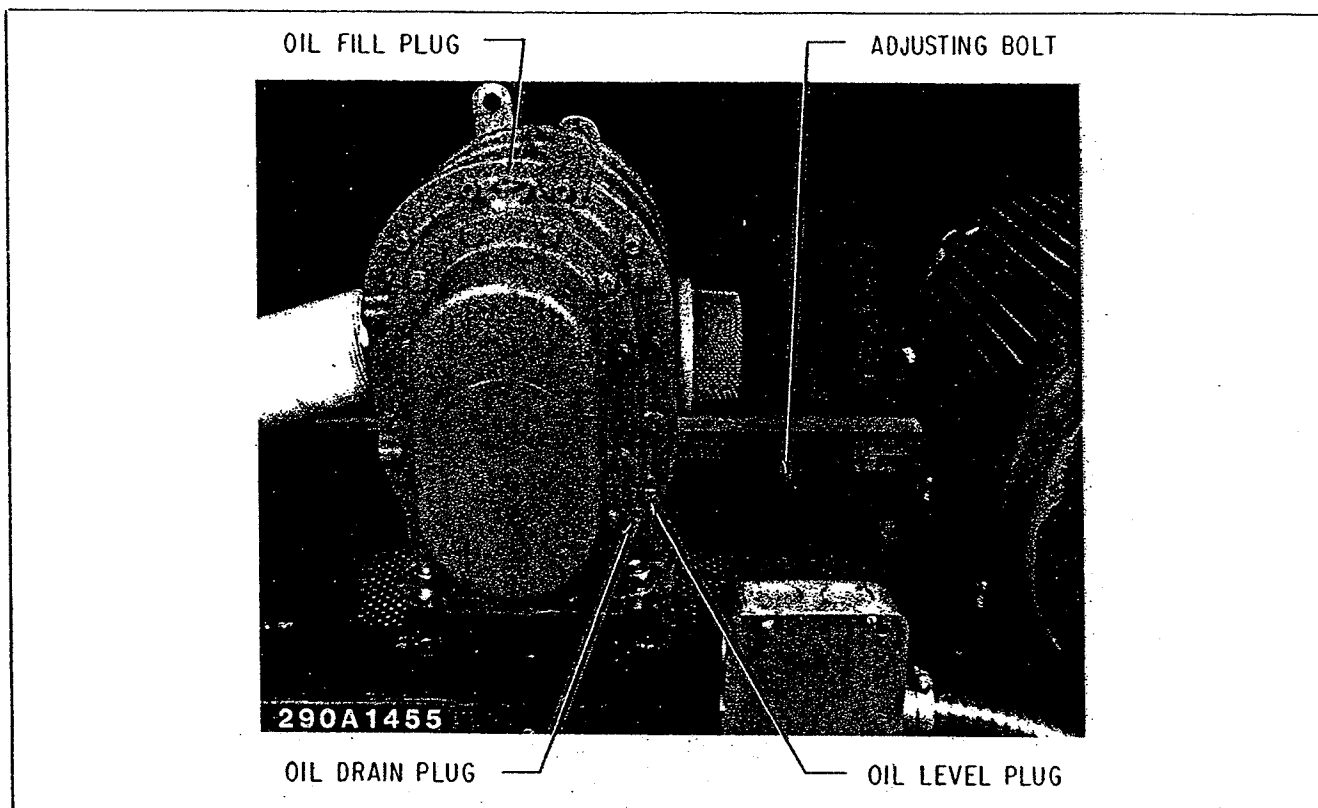

Figure 5-2. Blower Lubrication.
1. Blower Assembly (see figure 5-2).